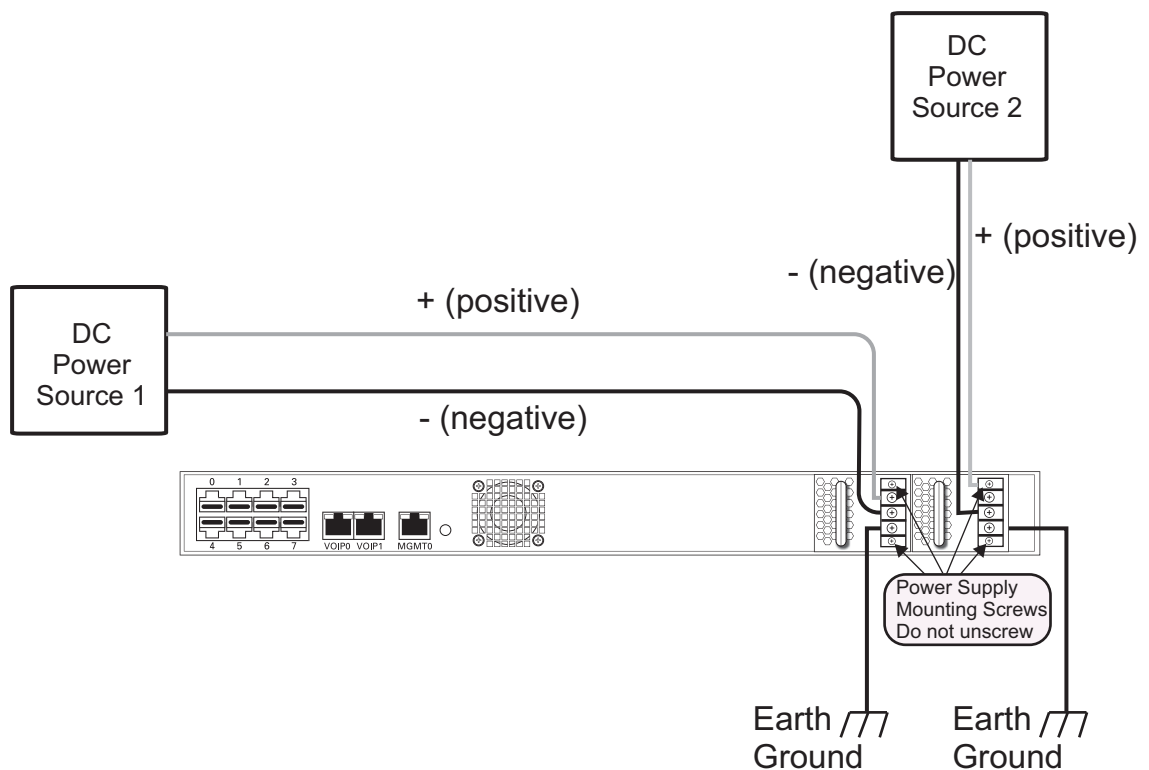

Figure 2.7 800 Series Gateway Redundant DC Supply Wiring Diagram
1. Connect one wire from the positive terminal of the 800 series gateway to the positive side of DC power source one, as shown in figure 2.7 on page 19.